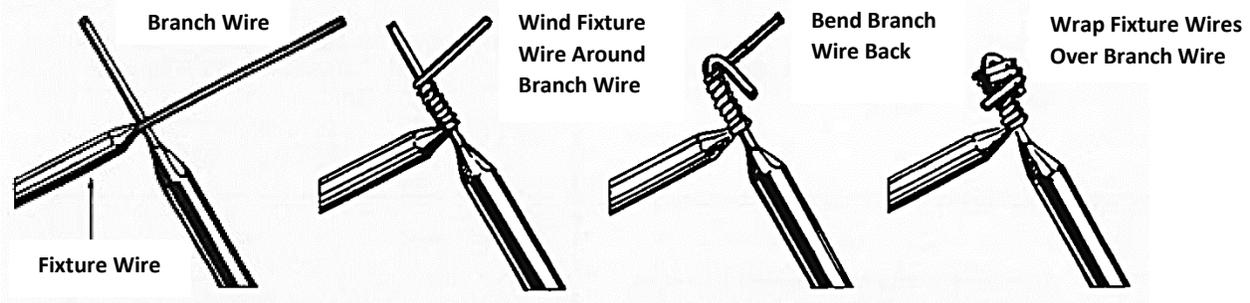

Figure 7.11: Fixture Splice
- 7-71 A lighting fixture can be connected to a branch circuit wire with a *fixture splice*, if the fixture wire is smaller than the branch wire. Start by winding the fixture wire around the branch wire, as shown in Figure 7.11. Then bend the end of the branch wire back, and continue wrapping the fixture wire over the bent branch wire.